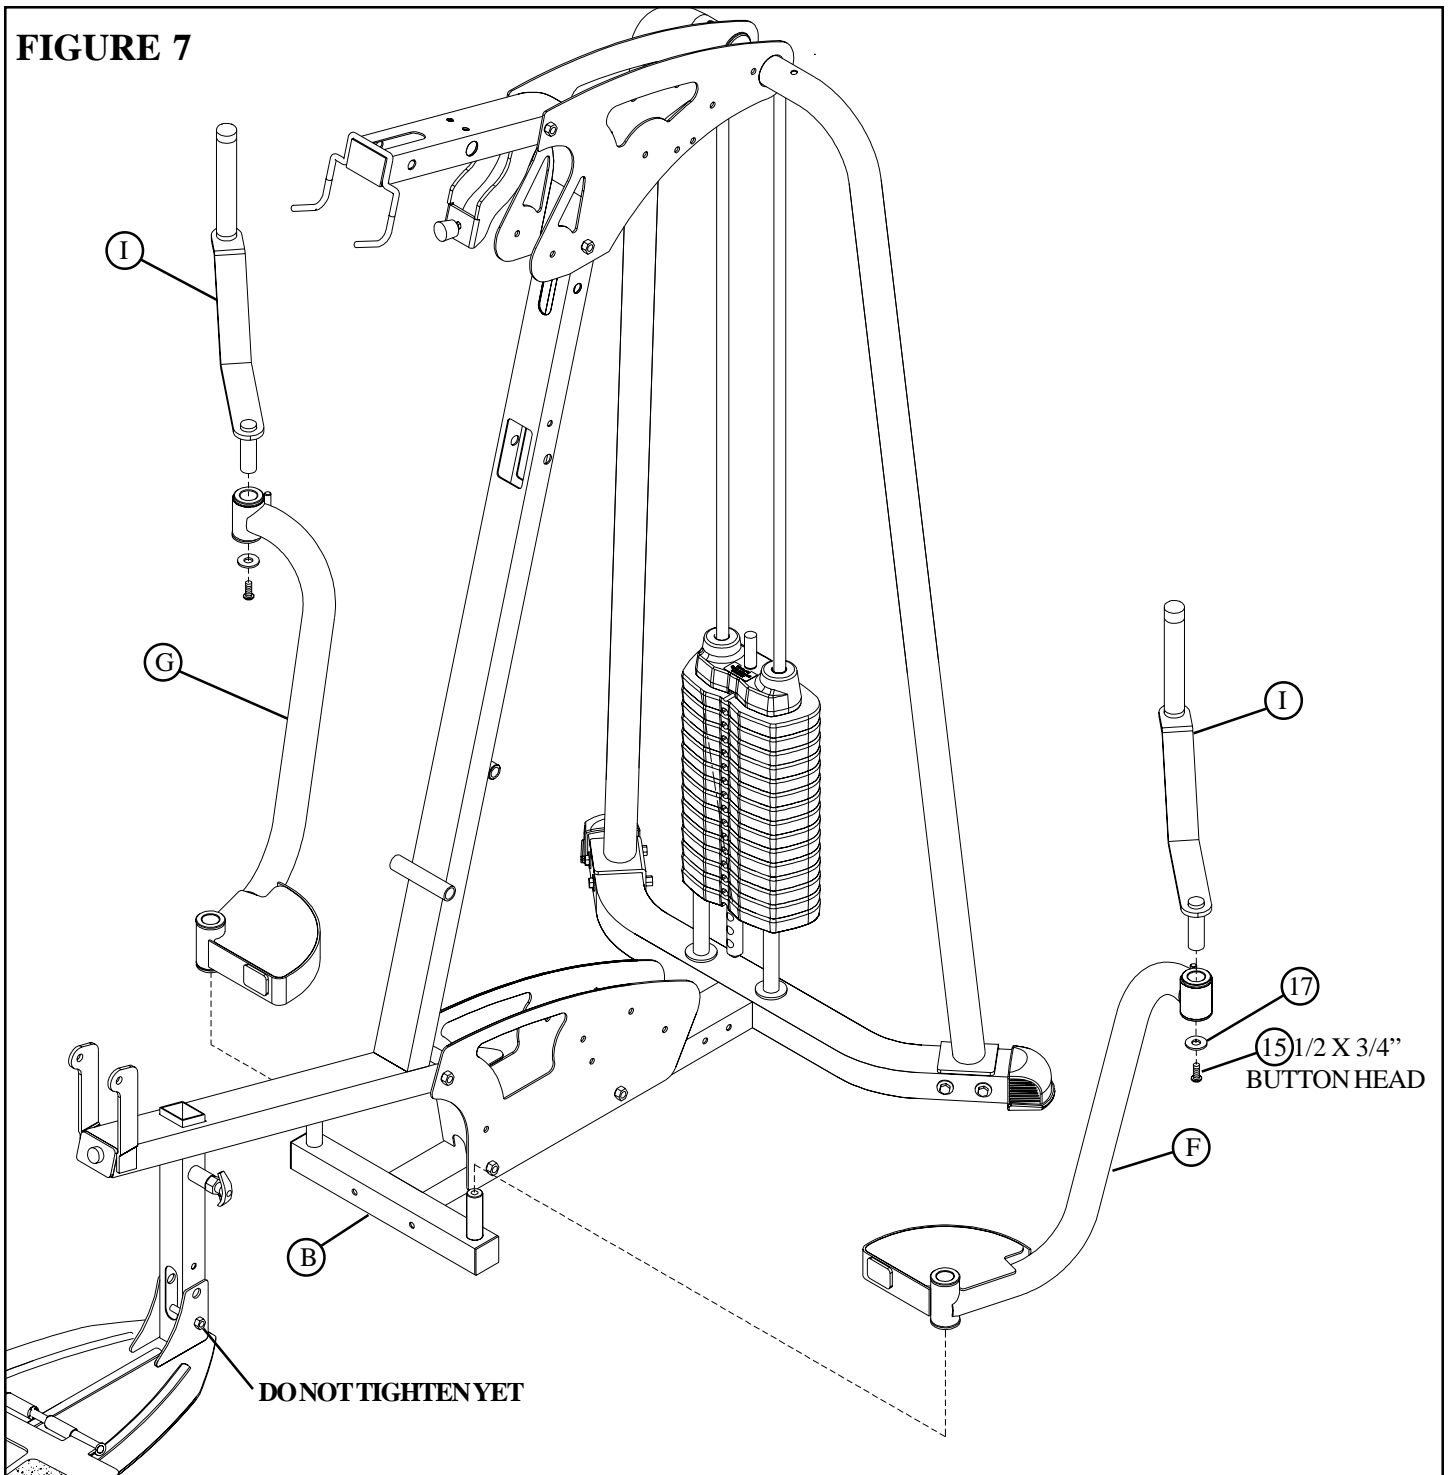

**FIGURE 6**
- **SECURELY** assemble the LEFT (D) and RIGHT (E) BOOM PLATES to the FRAME (A) using two 3/8 X 3-3/4" BOLTS (6) and two 3/8" LOCK NUTS (19). See FIGURE 6.
- Slide up both SHAFT COLLARS (29) to top until flush with bottom of the guide rod bushings in both the LEFT (M) and RIGHT (N) REAR UPRIGHTS and **SECURELY TIGHTEN** as shown in FIGURE 6